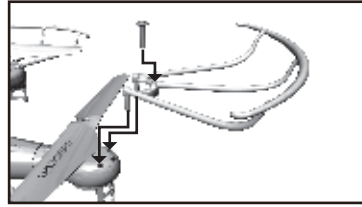

FIG. 2
2. Install the blade protection frame to every corner and tighten the screws (Figure 2).
2. Open the battery cover with camera (Figure 2).